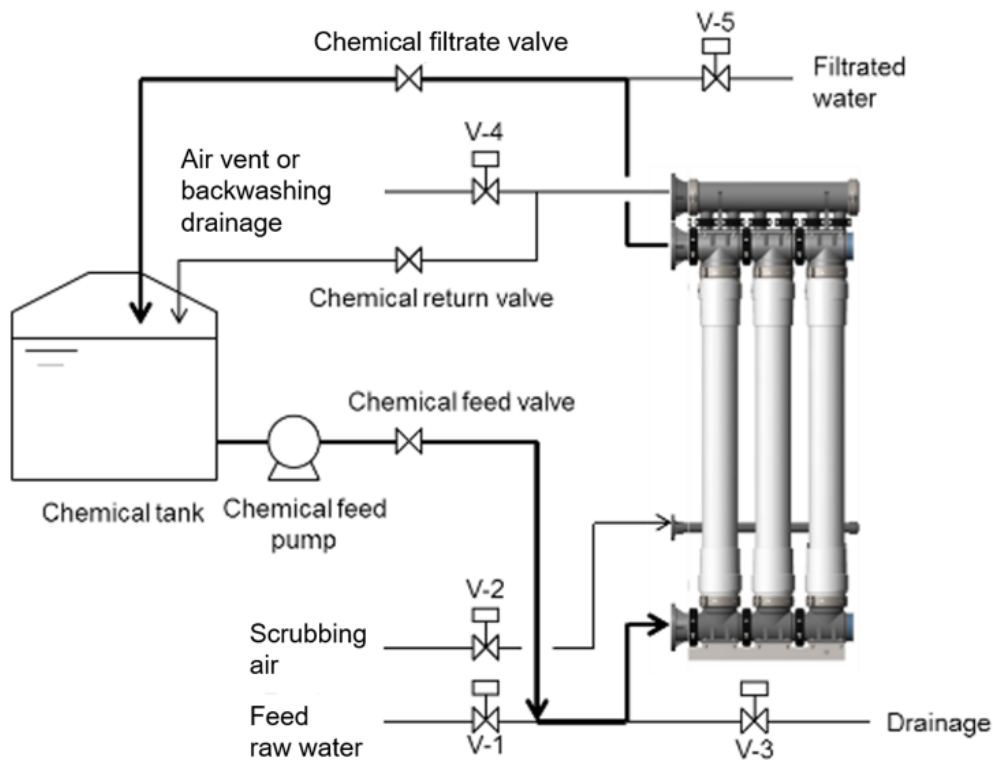
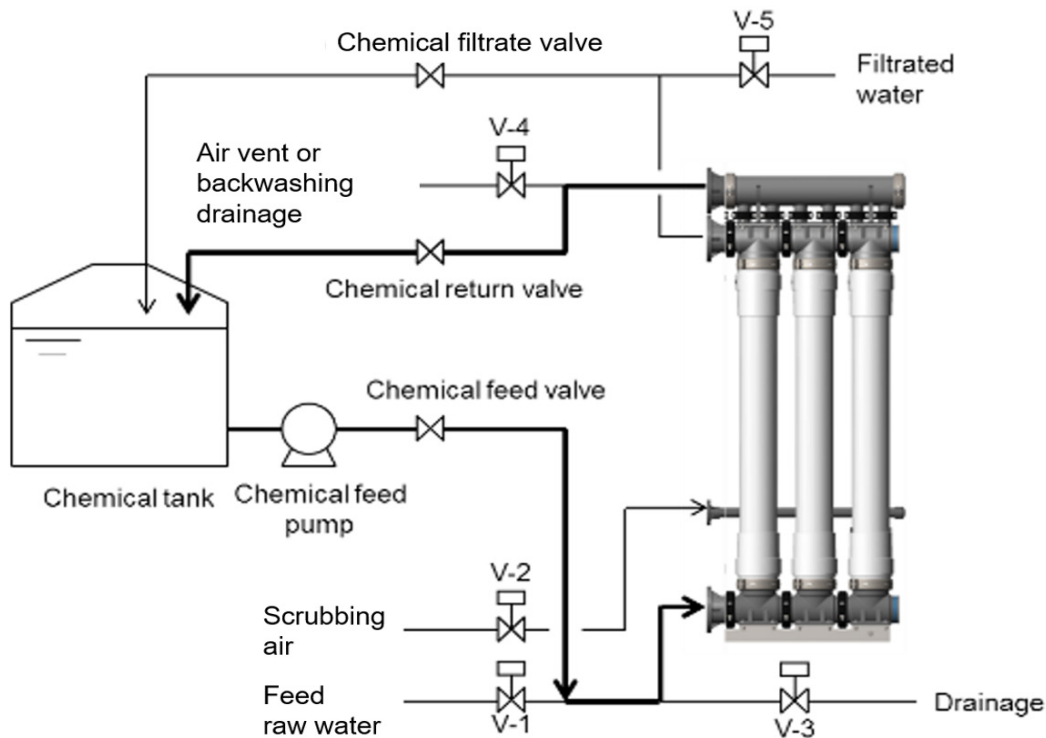

Fig. 11. Flow Diagram for Chemical Cleaning for Filtrate Side
Fig. 12. Flow Diagram for Chemical Cleaning for Feed Side
- (1) The flow diagrams for cleaning simultaneously both outer surface and inside of hollow fiber membranes is shown in Fig. 11 and Fig. 12. The flow diagrams can be changed case by case. Please contact us for further information if necessary.
- (2) Open the chemical return valve and then open the chemical feed valve.
- (3) Run the chemical feed pump to start for chemical circulation. Then, open the chemical filtrate valve to let the chemical pass through the membrane.
- (4) Circulate the chemical for a specified time.
- (5) Stop the chemical feed pump.
- (6) Drain the chemical and rinse the cleaning line and the module thoroughly with product water.